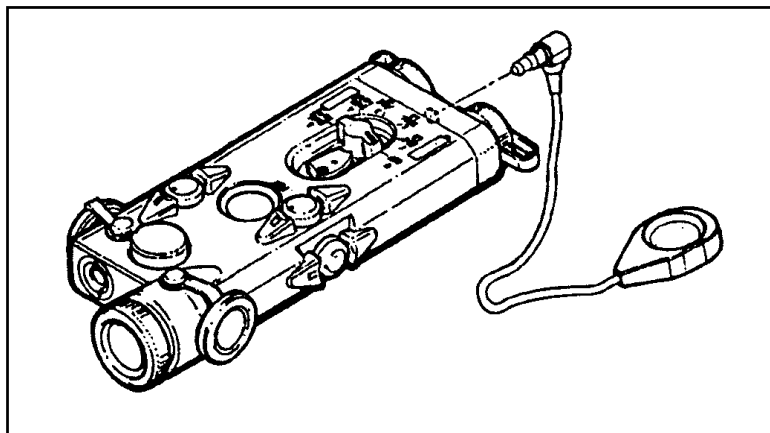

Figure F-10. Installation of the cable switch.
(5) **Cable Switch** (Figure F-10). The cable switch is used when the AN/PEQ-2A is mounted on a weapon. The cable switch plugs into the back of the AN/PEQ-2A